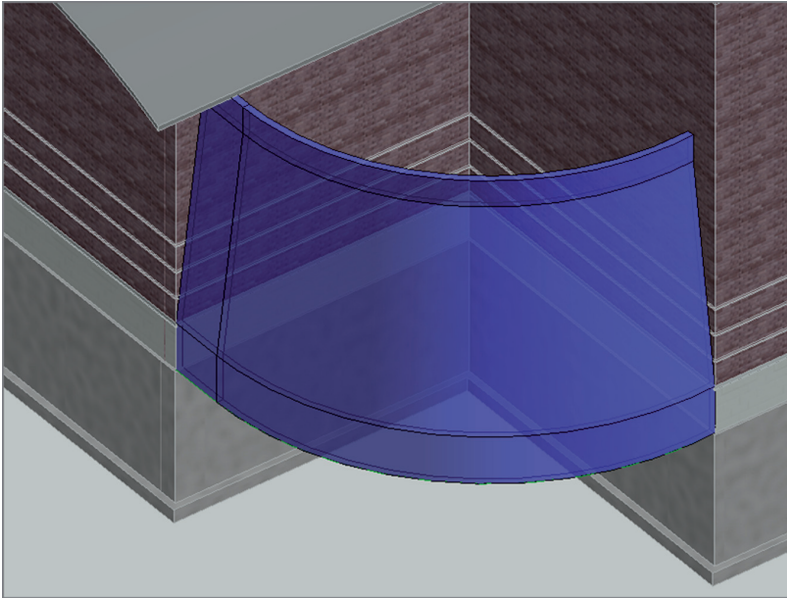

FIGURE BC1.47: The finished mass
7. When the form is placed, click the Finish Mass button. You should be looking at what is shown in Figure BC1.47.